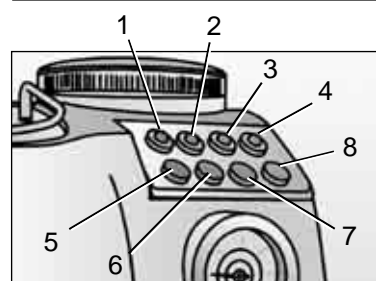
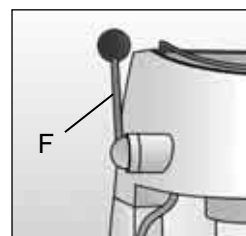

Fig. 2
Fig. 3
- Press the main switch (5) Fig. 2; the power light (1) will light up and light (2) will start blinking until the operating temperature has been reached. Lower the water/steam lever (Fig. 3 - F), and, at the same time, press the coffee brewing button (6) thus bleeding any air or water out of the circuit. Fill up at least a cupful of water. Lift the water/steam lever (F) back up and stop the brewing cycle by pressing the coffee button (6).
- 2) “Dispenser/Measuring Device” (N) Fig. 9. Keep the switch (8) Fig. 2 pressed until the ground coffee Dispenser is full: operate the Measuring Device lever once or twice, according to how many cups of coffee you wish to prepare, and keep the filter ring inserted into the fork. To release, pull the devices (M) or (N) in your direction.
Check the water level in the tank (H). Make sure that the water tank is correctly placed into its position. Measure the coffee in the filter ring Fig. 8 with the supply device that you have chosen and slightly press it Fig. 10. Tighten the filter holder firmly by ensuring it is securely fitted against the flange Fig. 14. If an excessive amount of ground coffee is placed into the filter, turning the filter holder may become difficult, and/or coffee may leak from the filter holder when drawn. The appliance will be ready for use, as soon as light (2) Fig. 2 stops blinking and stays lit. Then press the switch for the outflow of the coffee (6). Press it again (6) to stop the coffee outflow. The maximum dose for one coffee is 50 ml.